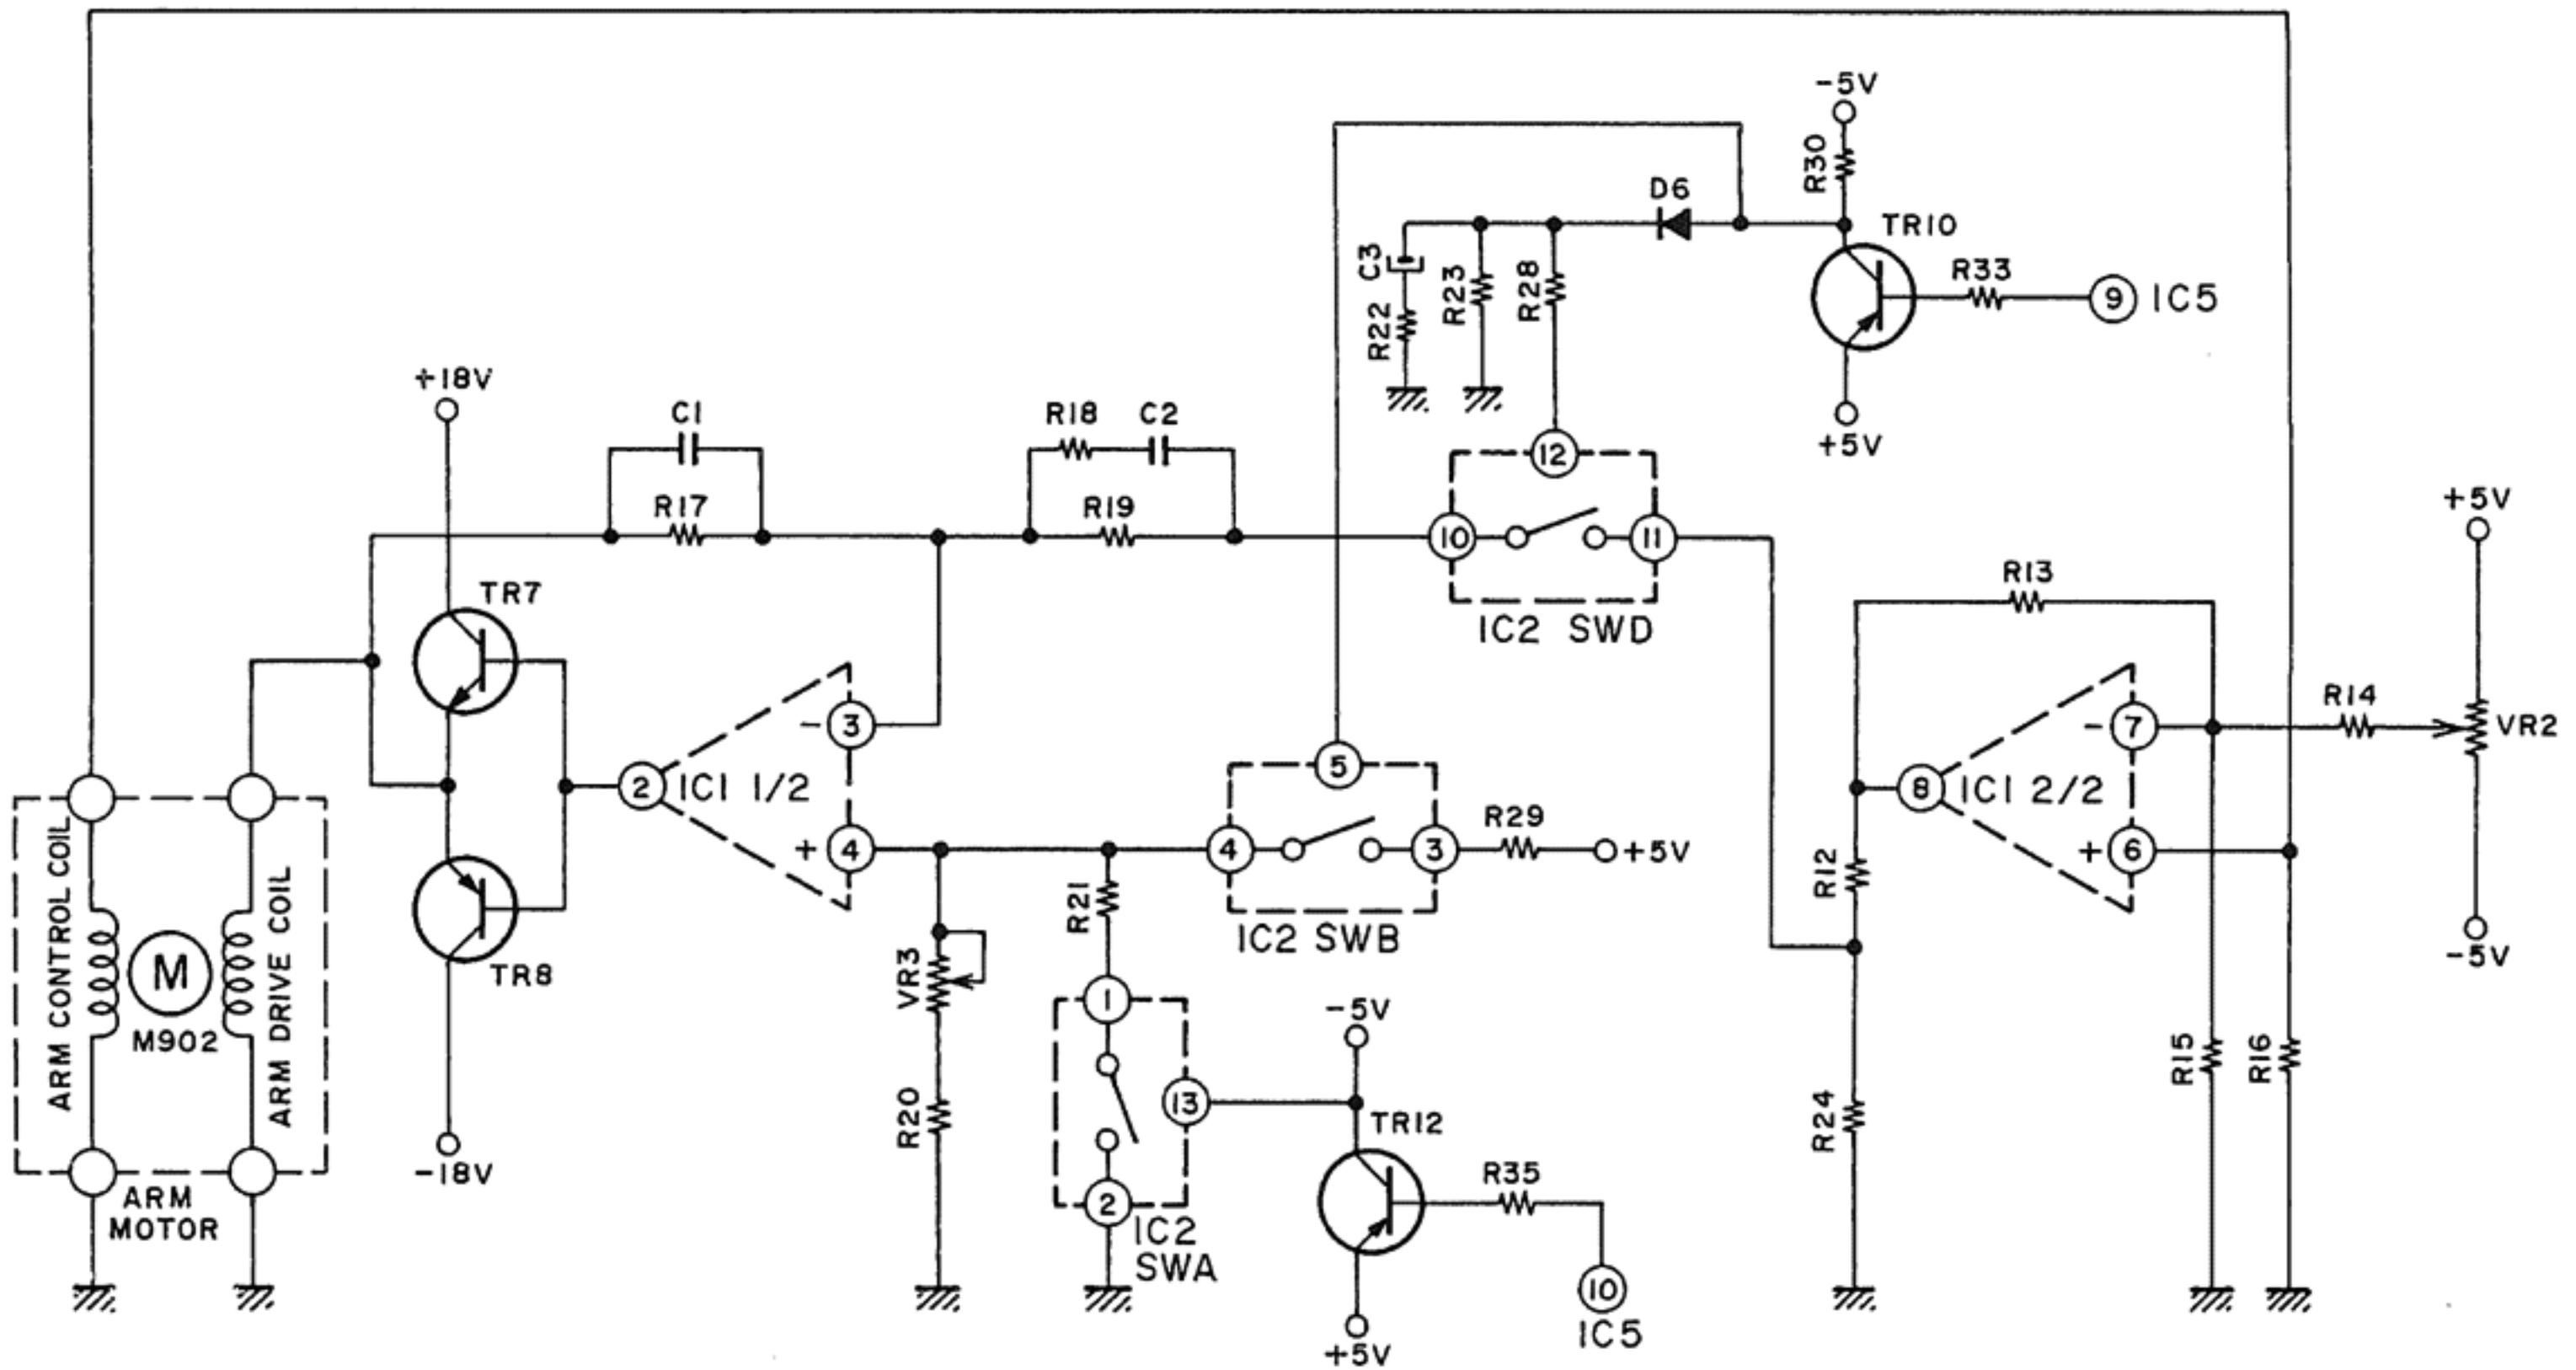

Fig. 13 Arm Drive Circuit (F. REV/REV)
Unlike the arm drive circuit shown in Fig. 13, negative (-) voltage is applied to IC1 1/2 ④ and, therefore, the output of IC1 1/2 is also negative (-), thus allowing the current to flow through TR8 and the arm drive coil. As a result, the TONE ARM quickly moves toward the spindle (Fast Forward).
- 1) When the record has been played completely and the arm position has shifted to "6", the CPU judges that the arm has arrived at LEAD-OUT position and sets IC5 ② (PLUNGER) to "H". Therefore, TR4 and TR2 are turned off, the plunger is released and the arm lifter rises.
- 2) When the arm lifter has risen and SW902 opens, IC5 ③ (ARM UP SW) becomes "H". Then, 0.14 sec. later, IC5 ④ (ANTI-SKATING) becomes "H", TR1 and TR6 are turned off and the ANTI-SKATING is stopped from functioning while at the same time, IC5 ⑨ (REV) changes to "L" and IC5 ⑩ (FAST) changes to "H" while the tone arm is fast reversed (same circuit as shown in Fig. 13).
- 3) When the tone arm comes to the position between "2" and "1", IC5 ⑮ (MAIN MOTOR) becomes "H" and sends STOP signal to IC3 ⑪. As a result, brake is applied to the main motor and IC3 ⑫ becomes "H", thus turning on TR34 and changing IC5 ⑬ to "L". Now, IC5 ⑰ (QUARTZ LED) becomes "H" and the Quartz Lock LED is turned off.
- 4) When the tone arm is set to position "1", IC5 ⑩ (FAST) becomes "L" and the tone arm is set from Fast Reverse to Reverse while at the same time IC5 ⑬ and ⑯ becomes "H". As IC5 ⑬ (POWER IND/SENSING) becomes "H", TR25 and TR26 are turned on and LED for START/CUT Button is lit from green to red. When IC5 ⑰ (33 1/3 LED) is set to "H", TR28 is turned off and the speed button LED is turned off.
- 5) When the tone arm is set on the position "1" and, then, continuously reversed for 2.5 seconds, IC5 ⑨ (REV) becomes "H" and TR10 is turned off, thus stopping the tone arm. At this time, the tone arm is set on the arm clamp position ("0").